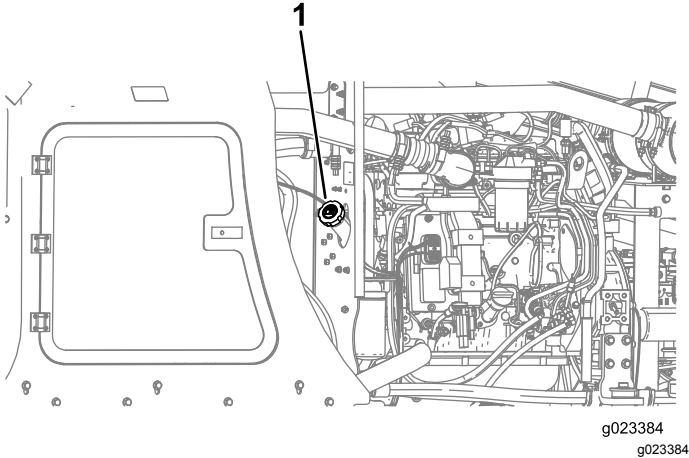

Figure 37
- Remove the cap from the fuel tank (Figure 37).